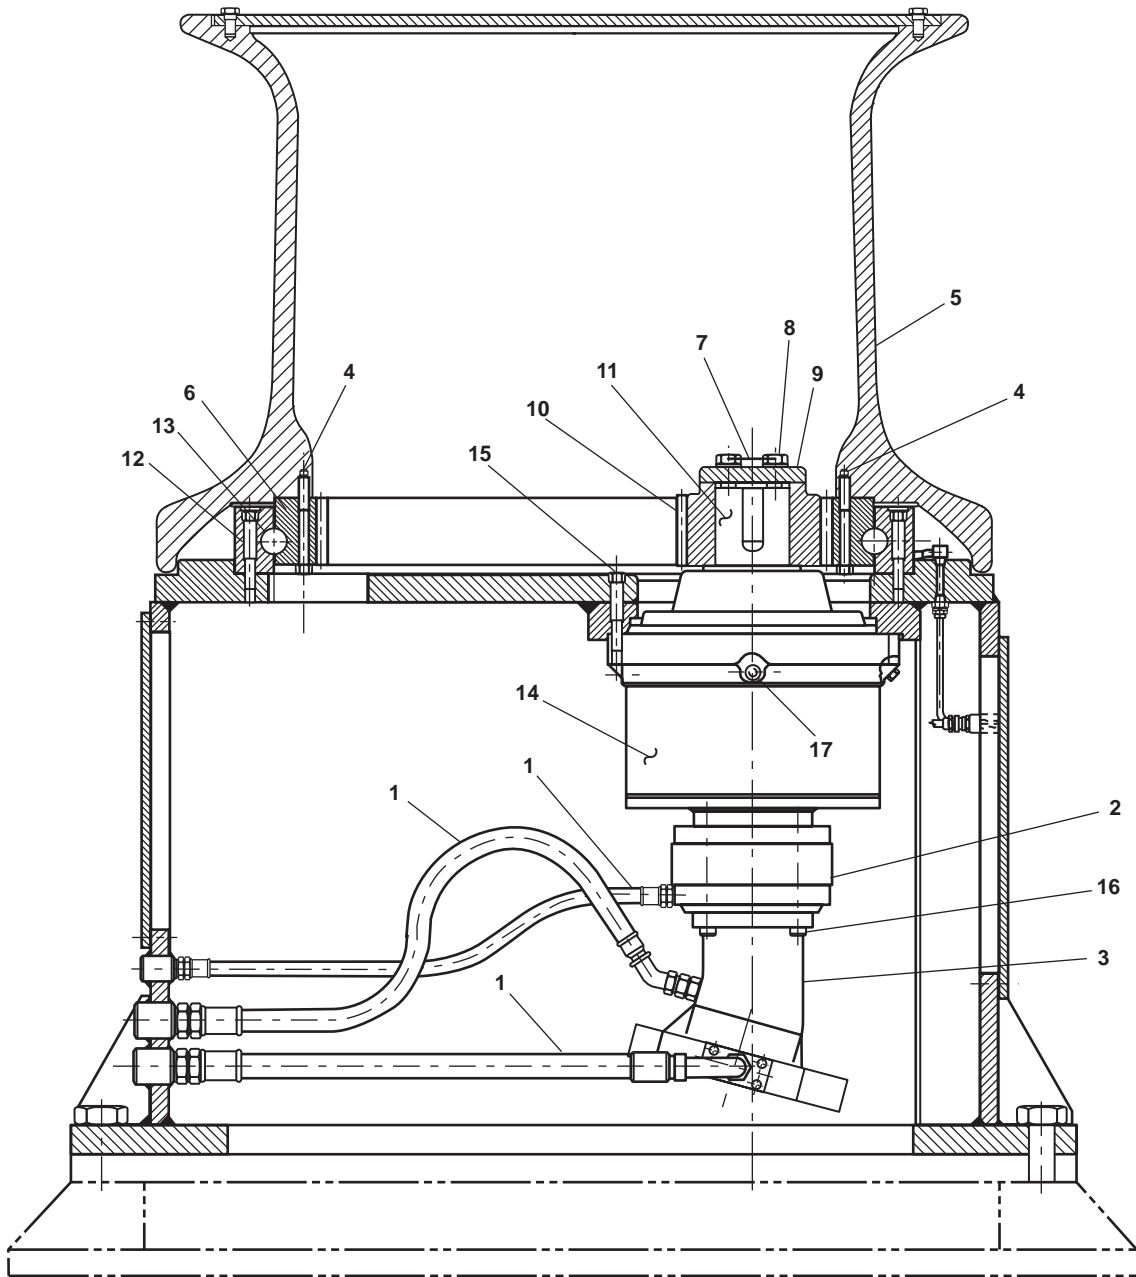

Figure 1. Power Wheel Planetary Gear
1. Position a suitable drain pan beneath the hydraulic hoses (figure 1, item 1).
2. Loosen, but do not remove, the hydraulic hoses (figure 1, item 1) to release pressure from the system.
3. After all the pressure has been relieved, disconnect the hydraulic hoses (figure 1, item 1) at the brake (figure 1, item 2) and motor (figure 1, item 3).
4. Cap the hydraulic hoses (figure 1, item 1) to prevent contamination.
6. From AMS 2, remove the 36 bolts (figure 1, item 4) that secure the capstan head (figure 1, item 5) to the inner bearing race (figure 1, item 6). Use a suitable crane to lift the capstan head free.
7. Cut the lockwire (figure 1, item 7).
8. Remove the two bolts (figure 1, item 8) and the retainer plate (figure 1, item 9).
9. Remove the pinion gear (figure 1, item 10) from the shaft (figure 1, item 11).
10. Remove the 24 bolts (figure 1, item 12) that secure the main bearing (figure 1, item 13) to the base.
11. Use a suitable crane to lift the main bearing (figure 1, item 13) from the base and set aside.
12. Attach a lifting eye to the shaft (figure 1, item 11) on the reduction gear (figure 1, item 14).
14. Remove the 20 bolts (figure 1, item 15) from the reduction gear (figure 1, item 14).
15. Use a suitable crane to lower the reduction gear (figure 1, item 14) to the deck below.
16. After the reduction gear (figure 1, item 14) is on the deck, remove the four bolts (figure 1, item 16) that secure the brake (figure 1, item 2) and motor (figure 1, item 3) to the reduction gear (figure 1, item 14).
17. Remove the brake (figure 1, item 2) and reduction gear (figure 1, item 14) and set aside.
1. Install the brake (figure 1, item 2) and motor (figure 1, item 3) to the reduction gear (figure 1, item 14) using the four bolts (figure 1, item 16).
2. Use a suitable crane to lift the reduction gear (figure 1, item 14) in position.
3. Install the 20 bolts (figure 1, item 15) and torque them to 175 lb-ft (237 Nm).
4. Using the suitable crane, position the main bearing (figure 1, item 13) on the base and install the 24 bolts (figure 1, item 12). Torque the bolts to 300 lb-ft (407 Nm).